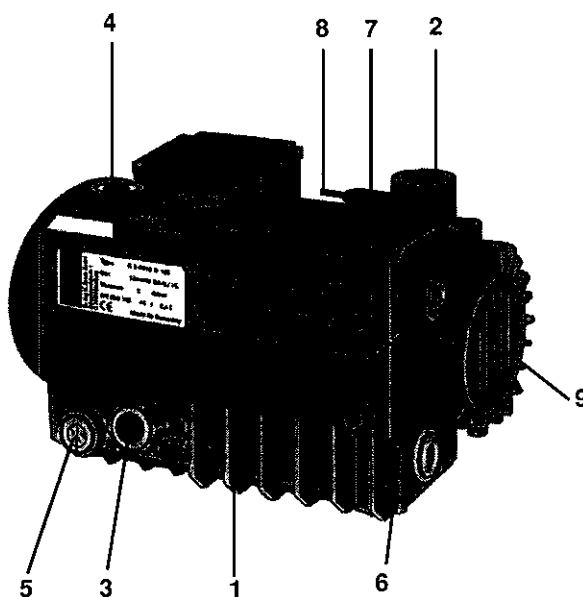

Fig. 7-8
- Unscrew oil drain plug (Fig. 7-8, 5) and drain off the old oil.
- Pour new oil in through the oil filler plug (Fig. 7-8, 4).